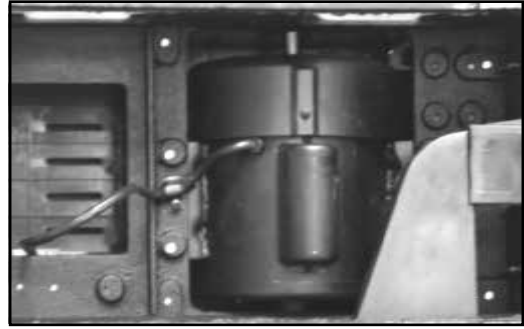

Fig. 20
2. Use compressed air to frequently blow out dust and debris from sander and motor. (See Fig. 20)